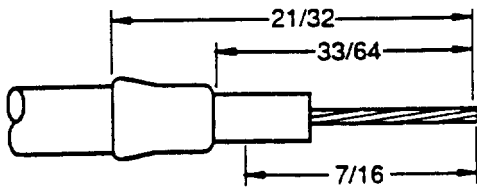

Figure 35. Strip Lengths
d. As shown in Figure 35, strip 7/16-inch of insulation from center conductor, allowing 33/64-inch between edge of braided shield and end of center conductor. Twist center conductor to prevent splayed wire strands.